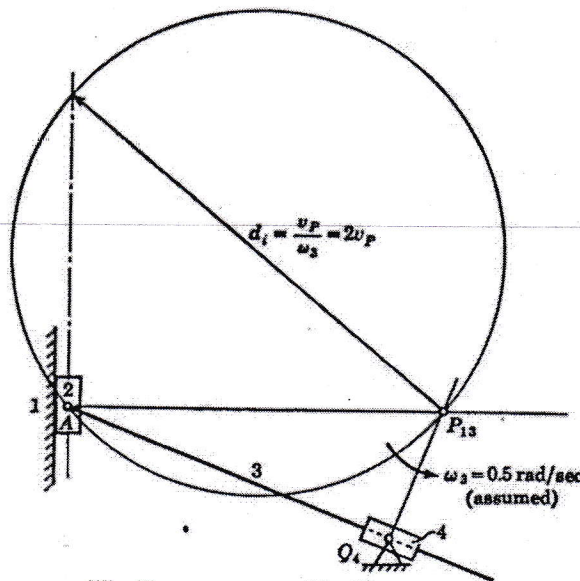

Figure 1
- b) Construct the inflection circle for link 3 of the conchoidograph shown below Figure 1. [4+6]